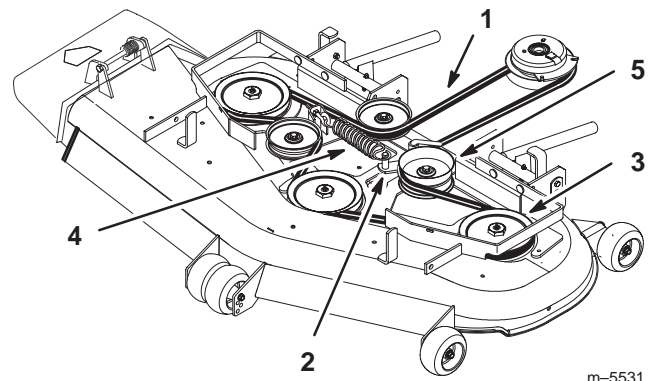

Figure 60
5. Remove the belt. Start at the outside pulley and rotate the belt off (Fig. 60).
8. Install the idler pulley and route the belt onto the other pulleys (Fig. 60).